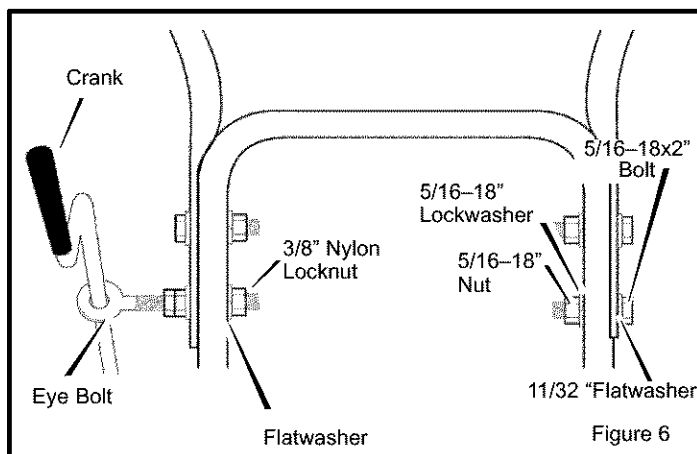

Figure 6
3. Install hardware supplied in the parts bag (bolt, flatwasher, lockwasher, and hex nut) into right lower hole of upper handle (See Figure 6). Do not tighten until all bolts are in place.
7. Install the eye bolt through the lower hole on the left hand side of the handle. (See Figure 6).